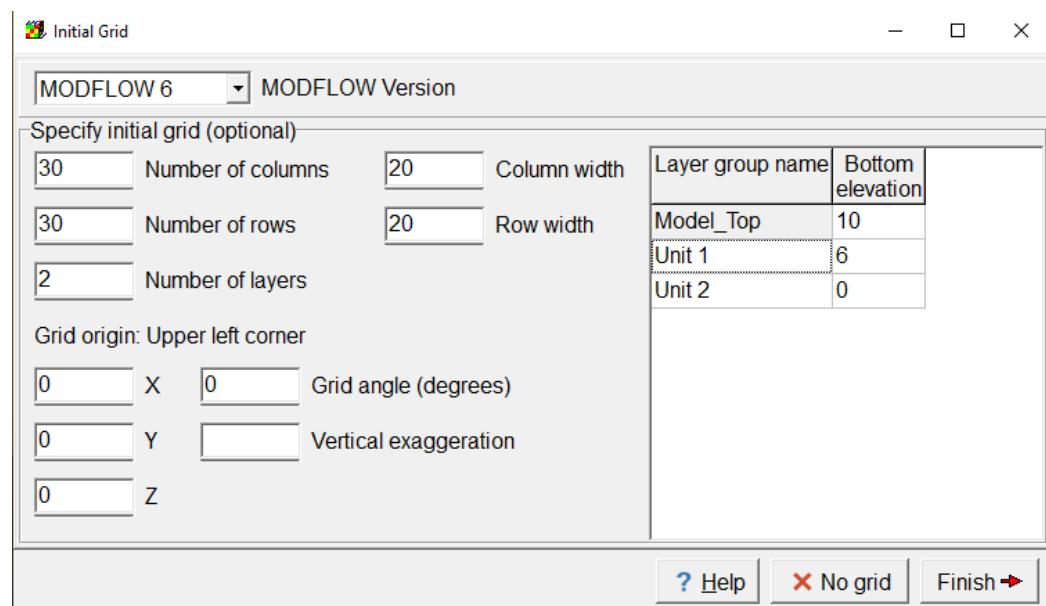

Figure 2. Grid extent
- 2) In the second screen, **create the grid** with the extent corresponding to your problem definition as illustrated in Figure 2. We will use a relatively coarse model with 30 rows and columns, all 20 m wide (so a model of 600 x 600 m in total) and an appropriate number of layers or hydrogeological units (2 in this case, the two aquifer units). Note that a layer can be later subdivided in several sub-layers, so what is important is to define the correct number of hydrogeological units. You will be able to change the grid later. Specify the elevation of the model top and of the boundaries between layers, this can be adjusted later as well. Note that the grid can be modified at any moment as all the properties are set using objects. Click on **Finish**.